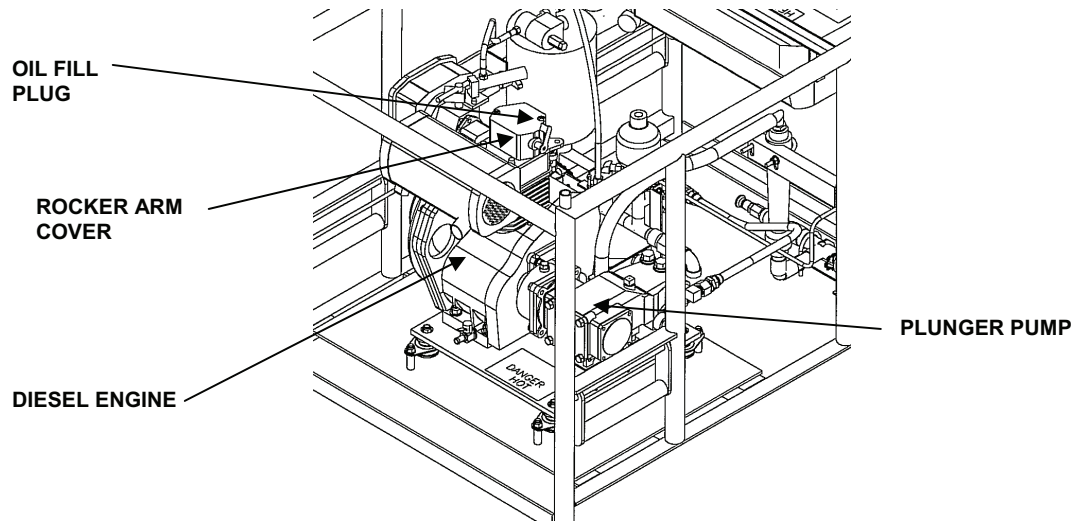

Figure 5. High-Pressure Pump Module Diesel Engine.
1. In cold weather, when the diesel engine is hard to start, remove the rubber plug on the rocker arm cover. See Figure 5.